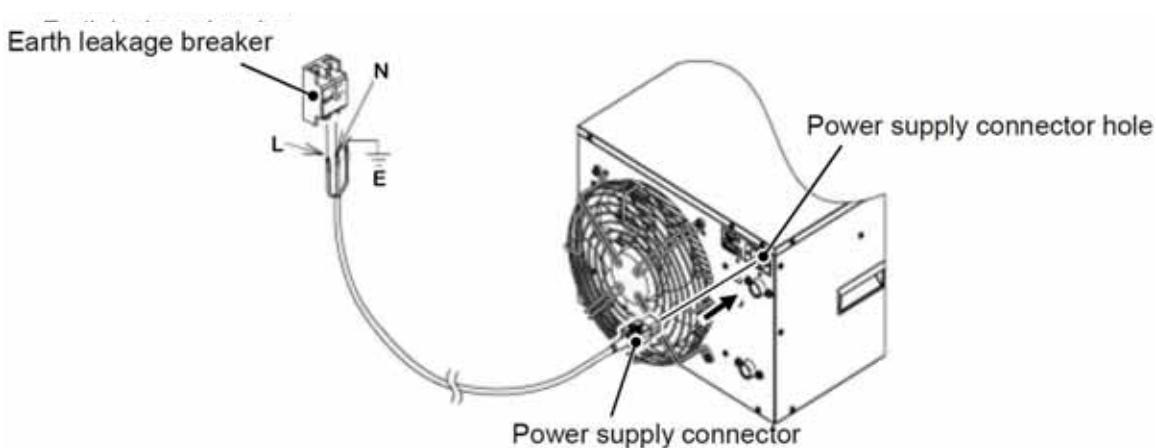

Figure 1.2-6. SMC Chiller Power Connections
17. Connect the crimped terminals to the secondary side of the earth leakage breaker and grounding on the facility power supply. See Figure 1.2-6.